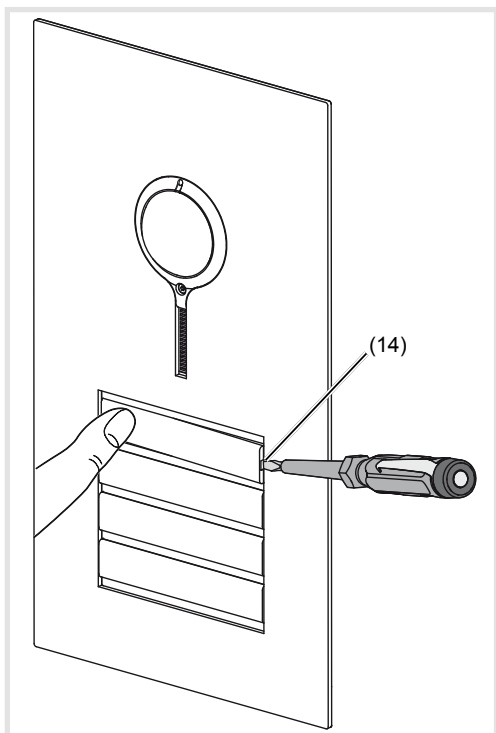

Figure 3: Removing name plate cover
- On the opposite side, the lever opening (14) is accessible for a screwdriver.
- Position the screwdriver in the lever opening (14) and release the interlock (Figure 3).